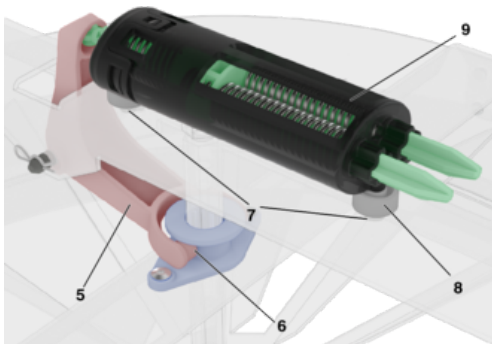

Fig. 13: Remove operating lever and remove actuator
3. ▶ Remove the operating lever (Fig. 13/5) from the sleeve of the linear bushing (Fig. 13/6).
4. ▶ Loosen the two fastening screws (Fig. 13/7) of the thermal actuator. Make sure to retain the two screws and the spacers (Fig. 13/8).
5. ▶ Remove and dispose of the old actuator (Fig. 13/9).